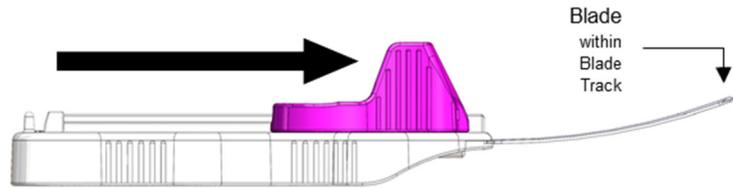

Figure 5: Rotate the Blade Handle 90 degrees
4. Rotate the Blade Handle 90 degrees to activate the retrograde cutting Blade (Figure 5).